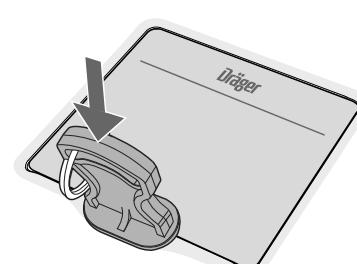

Fig. 41 Removing the power pack
- Insert and press down the removal key (Fig. 41).